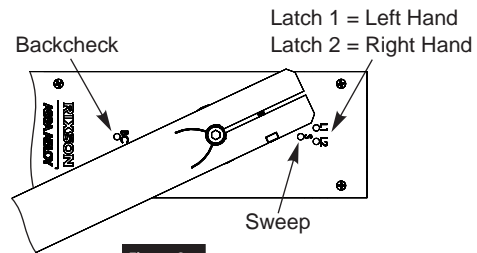

Figure 9
1. With provided 1/8" hex wrench, completely tighten latch and sweep valves by turning clockwise. This will allow for an easier closer-to-door connection. (Figure 9)